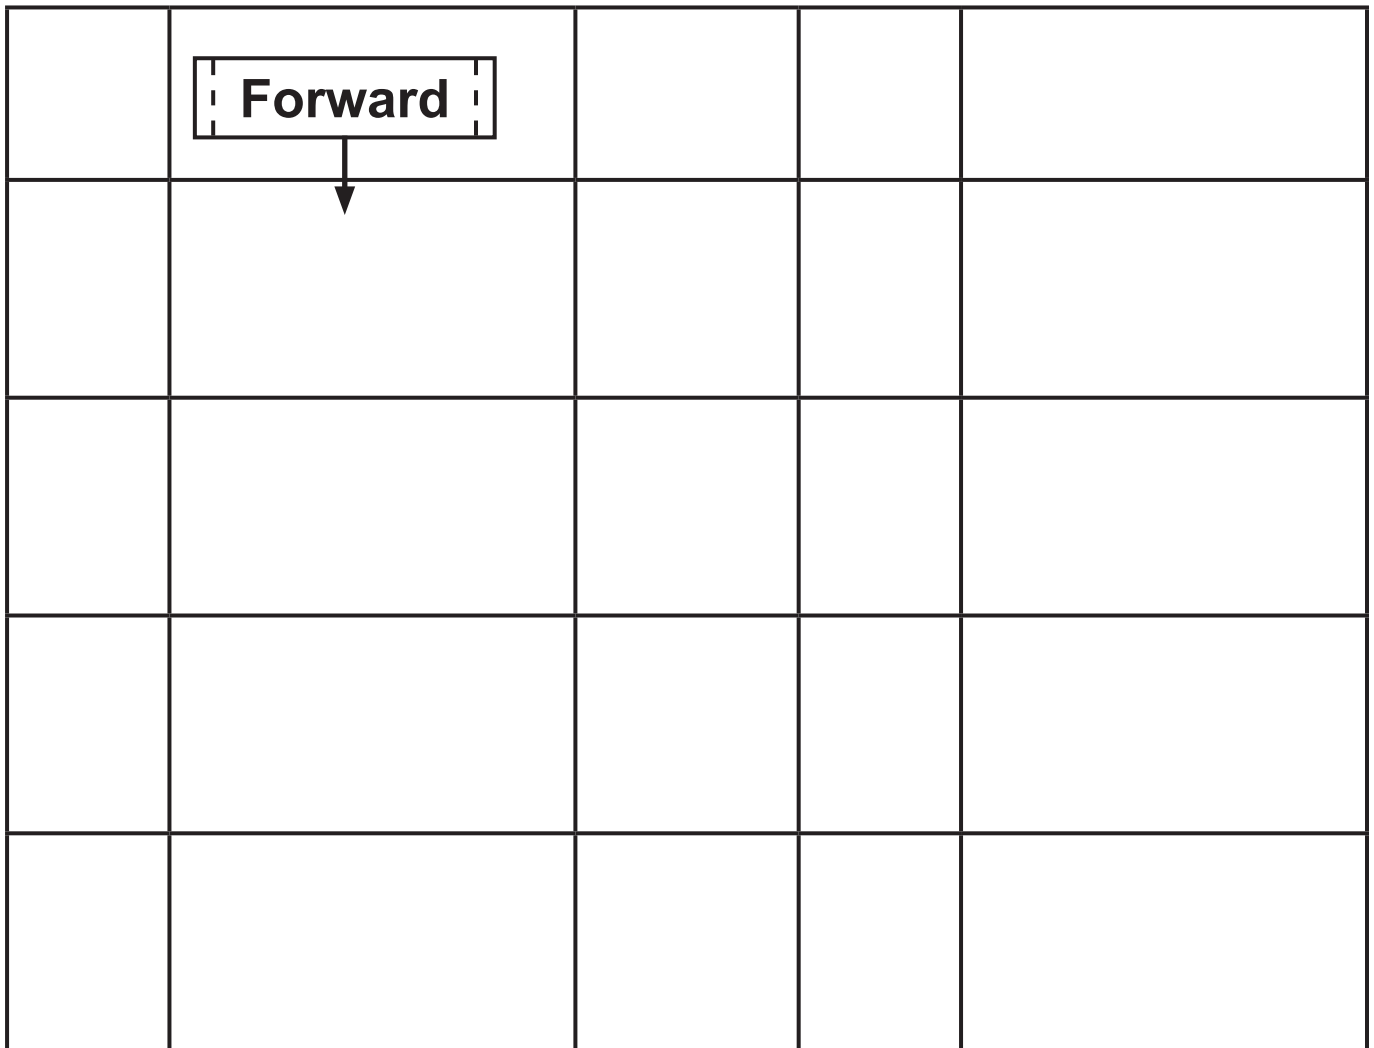

Fig. 10
- (i) Complete the flow chart in **Fig. 10** to represent the **Forward** macro as follows: [4 marks]